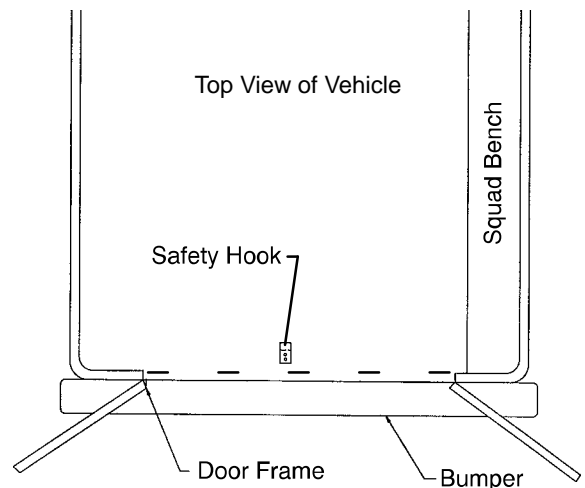

Figure 4 – Safety Hook Placement
4. Mark the position of the safety hook on the patient compartment floor. The safety hook should be installed as close as possible to the rear of the vehicle while allowing the vehicle doors to close (Figure 4). Be sure the bumper and bumper step don't interfere with the folding and unfolding of the cot's undercarriage.